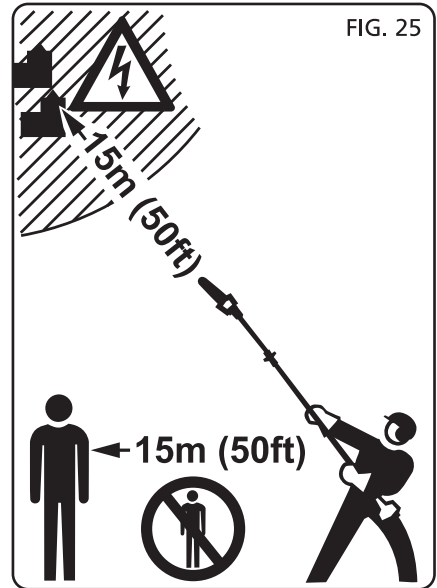

FIG. 25
12.1 USING THE 700mm EXTENSION POLE (FIGS.25 – 26)